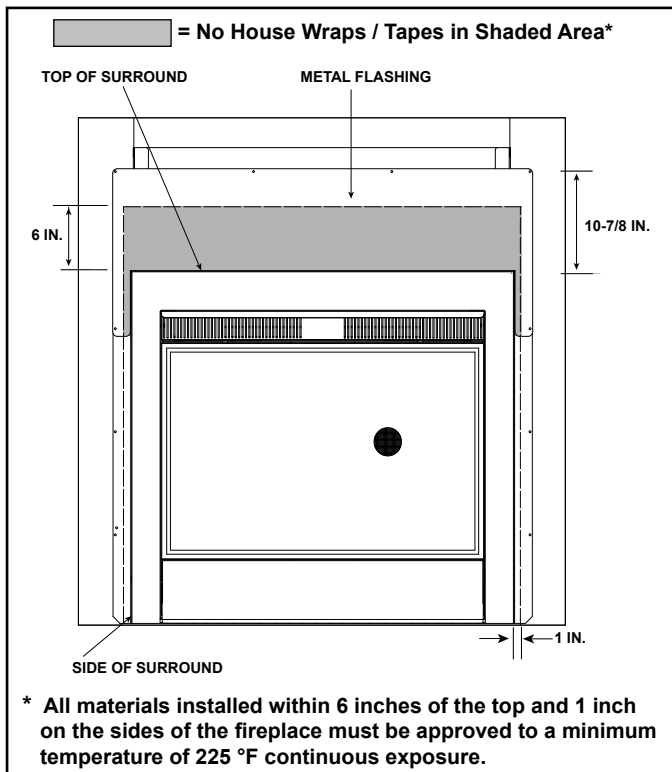

Figure 5.5. Exterior View without Non-combustible Sheathing Shown
For placement of combustible housewrap or building paper and non-combustible sheathing for the exterior wall see Figures 5.5 and 5.6.
- * **NOTE:** All finishing materials on top of exterior sheathing must be non-combustible for a minimum of 10-7/8 inches above and 2-3/4 inches on both sides of the exterior face of the appliance. This non-combustible finishing material can be up to a maximum of 6 inches thick (6 inches maximum horizontal overhang) to allow for brick and stone alcoves (see Figure 5.5).